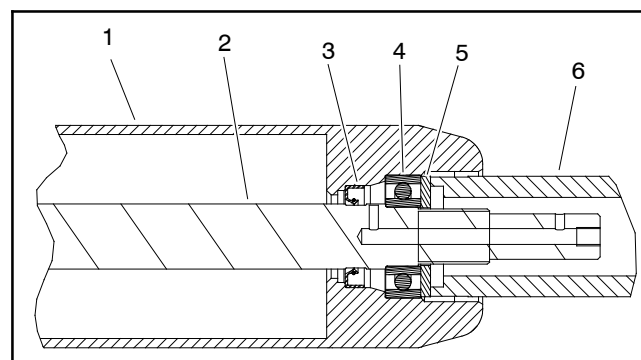

Figure 16
B. Use washer and bearing/outer seal tool (see Special Tools) with a soft face hammer to fully seat bearing (Fig. 16). After bearing installation, make sure that shaft freely rotates and that no binding is detected. If necessary, lightly tap bearing and/or shaft ends to align shaft and bearings. Remove washer from roller.